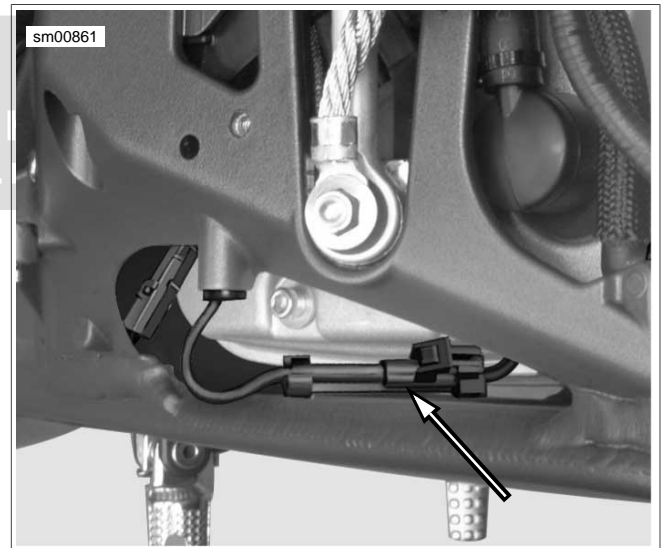

Figure 4-17. Engine Temperature Sensor Connector [90] (Typical)
6. See Figure 4-17. Disconnect engine temperature sensor connector [90] above rear cylinder head.
- See Figure 4-17. Connect ET sensor connector [90] to wiring harness.